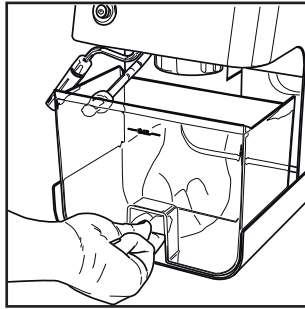

Fig.2
- **(Fig.2)** - Remove and empty the water tank.